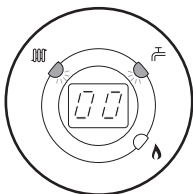

Fig. 96
6. The display will show '00', indicating maximum rate, then revert to 'P' alternating with the current boiler temperature (Figs 96, 97 & 98).